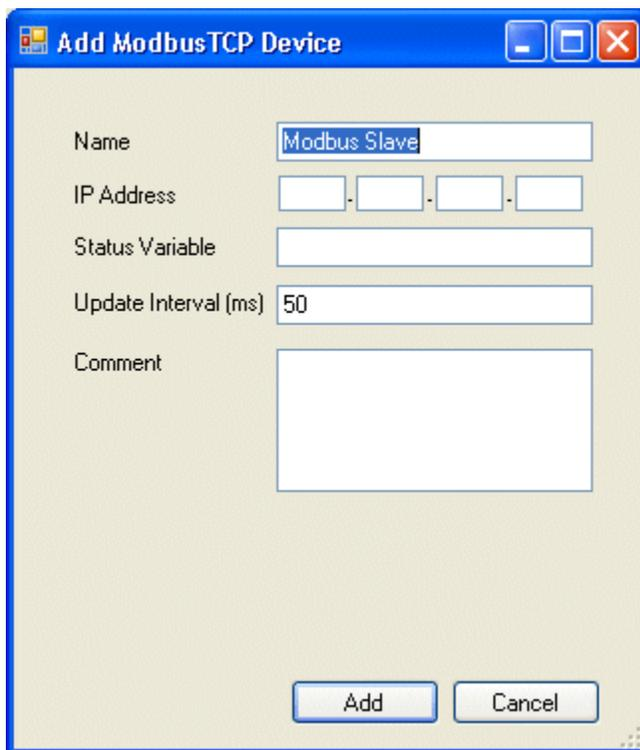
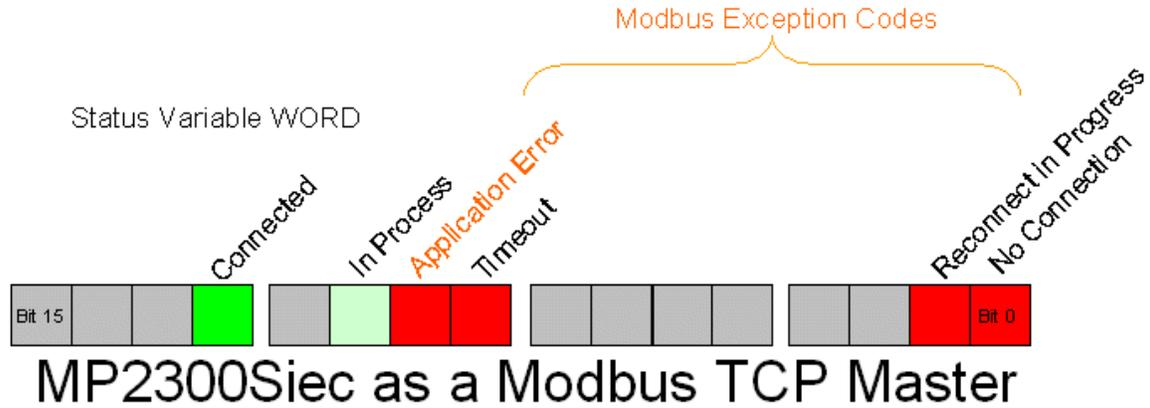

Figure 3: Add Modbus Device
Figure 7: Modbus status WORD
**Step 4:** The Add Modbus Device window is shown below in Figure 3. Select a name for the device to be added. This name will be displayed in the Global Variables list. The Status Variable will be automatically entered in the Global Variables section of the Development Environment. The Status Variable data type is WORD. This variable will indicate the status of the connection. See Figure 7 for details regarding the status variable. The minimum update time is 20 mSec.